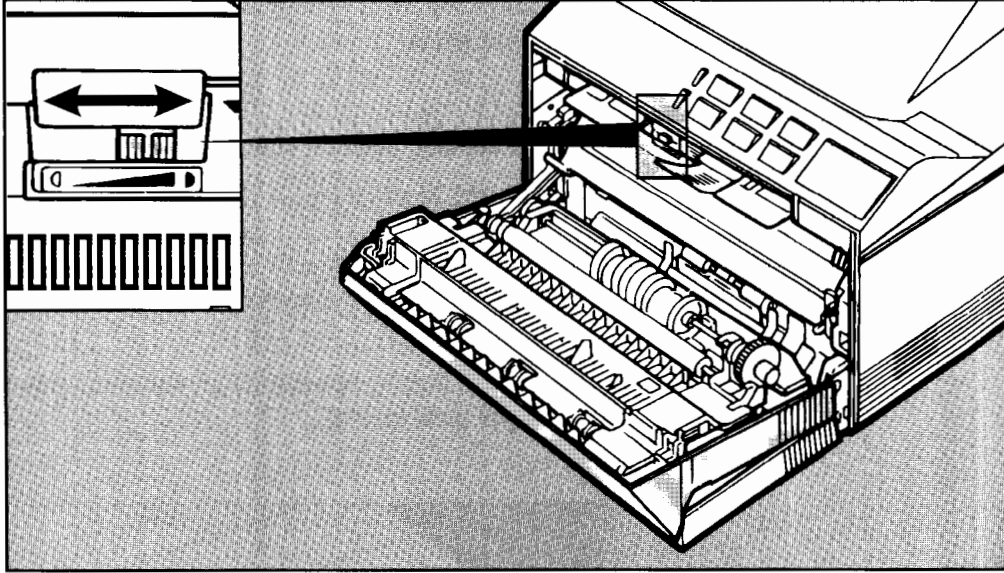

Figure 8-16. Adjusting Print Density
3. Move the print density slide (detailed in figure 8-16) to the right for darker print, or to the left for lighter print. The recommended setting is in the middle (you can feel a slight notch at this position).